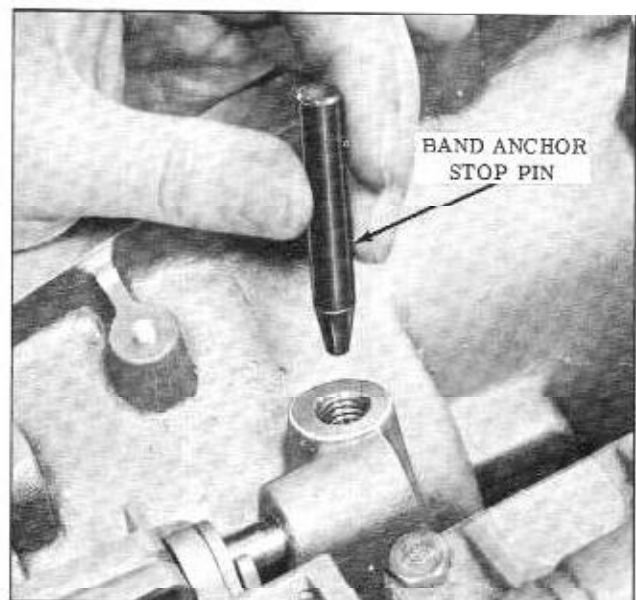

Fig. 3-120 Installing Band Anchor Pin
57. Install the band anchor stop pin into hole in case. (Fig. 3-120)